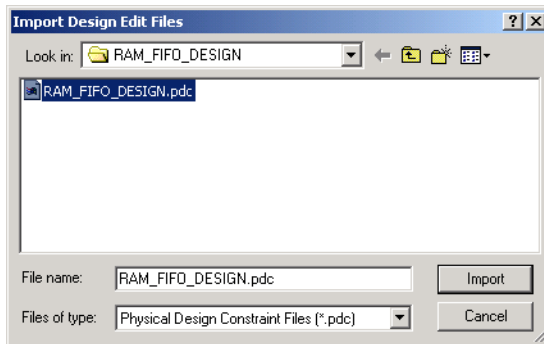

Figure 2-11. Selecting the PDC Files
2. **Click *the Add button*.** The Add Auxiliary Files dialog box appears, as shown in Figure 2-11.